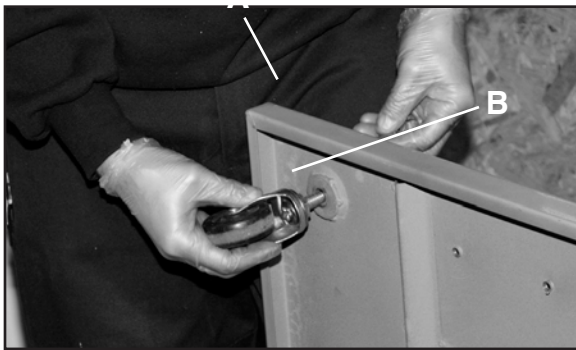

Fig. 1
Place the base plate (D) upside down and attach the four casters (J) to the holes, with flat washer, tooth washer and acorn nut provided. (see Fig. 1). Attach the motor base (O) to the motor with hex bolts (4 each, flat washers and nuts (provided)